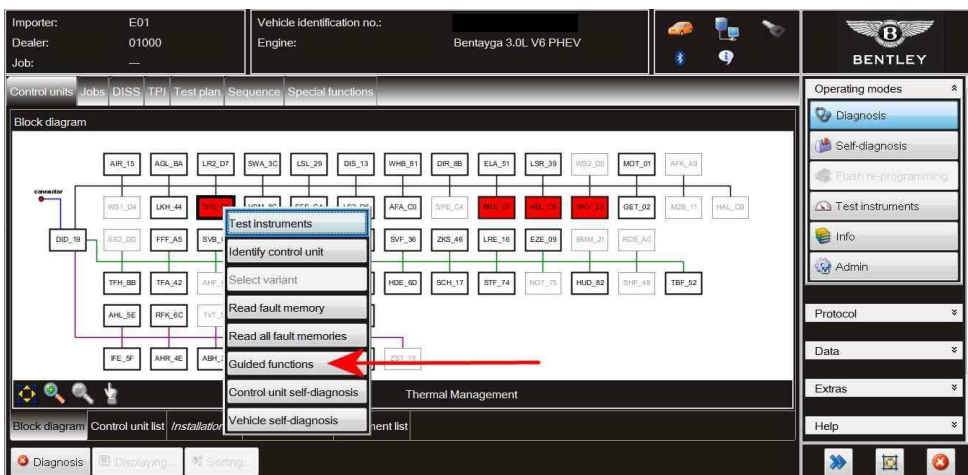

Figure 1
- Referring to Figure 1 - Open the options menu for C5 - Thermo-management control unit - Select Guided functions